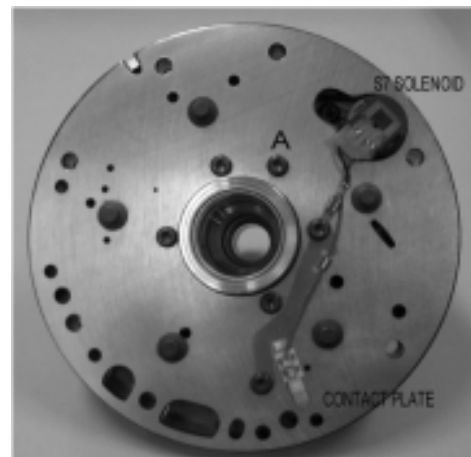
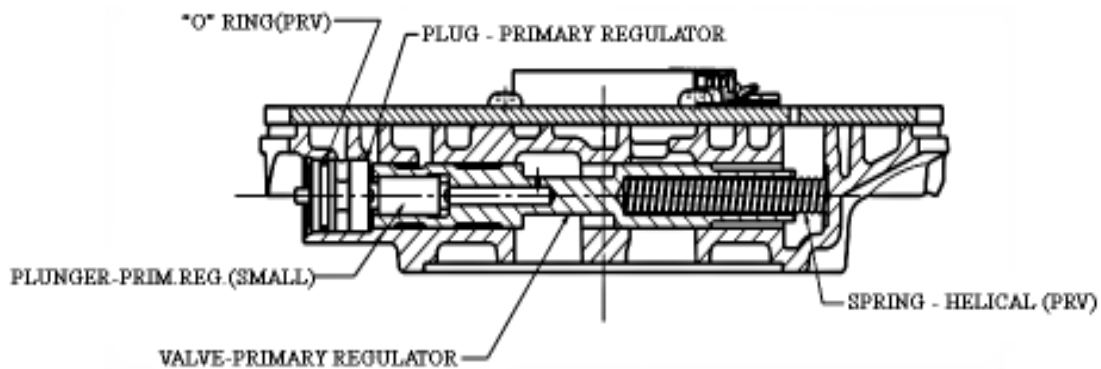

Figure 8.35 Assembly of pump cover
Figure 8.36 Primary regulating valve
Caution: Figure 8.35 The orientation of crossing part is shown in Figure 8.36 to 8.42.
- g. Install the primary regulating valve on the pump housing, ensure the valve slide freely; then install the plug of regulating valve and O-ring. Refer to Figure 8.36.